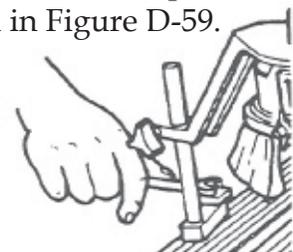

Figure D-59
7. Place the guard assembly's base clamp to the right rear edge of the worktable and tighten the knob on the bottom of the clamp with a 9/16" wrench, as shown in Figure D-59.